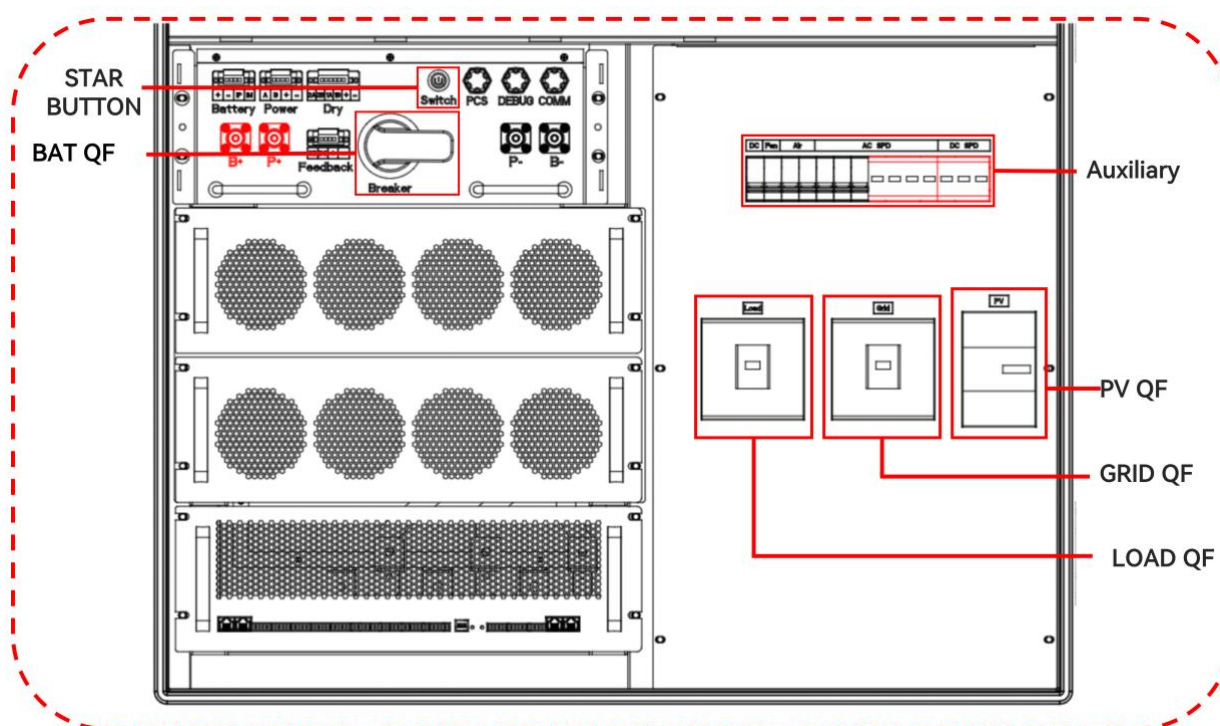

Figure4.3 Switch Position Figure
2. Refer to Figure 4.3 for the soft start switch of the closing transformer Air conditioning switch Auxiliary power switch, close QF2 Grid switch, complete transformer soft start.
Step 2: Refer to Figure 4.3 and disconnect the system air conditioning switch Auxiliary power switch and battery auxiliary power switch;
1. System startup: First, check the power on status of the entire machine. Refer to Figure 4.3 to close the transformer soft start switch and auxiliary power switch. Close the QF2 Grid switch to complete the transformer soft start.